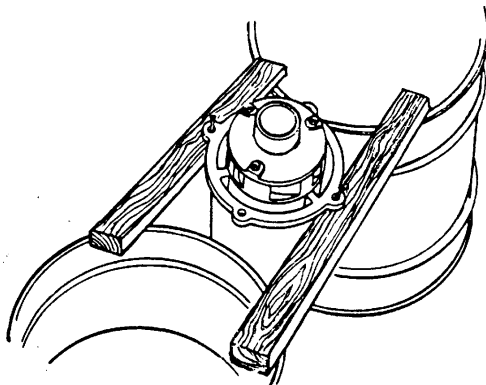

Figure 2. Supporting Pump For Disassembly
It is recommended that the pump be positioned upside-down during disassembly. Invert the pump and position it on two 2 X 4's supported by benches or drums (see Figure 2); temporarily secure the pump to the 2 X 4's by installing fasteners through the capscrew holes in the flange of the intermediate (8). Use adequate equipment and personnel to safely handle the pump until it is secured.